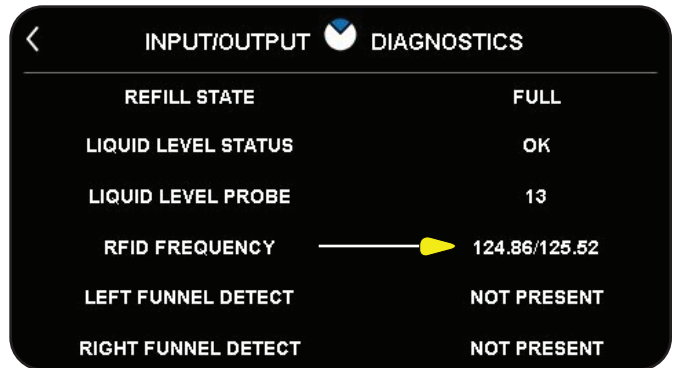

FIG. 29-3 SENSING COIL RFID FREQUENCY
4. The funnel sensing coil "RFID Frequency" must read between 124.0 - 127.0 kz (Fig. 29-3)